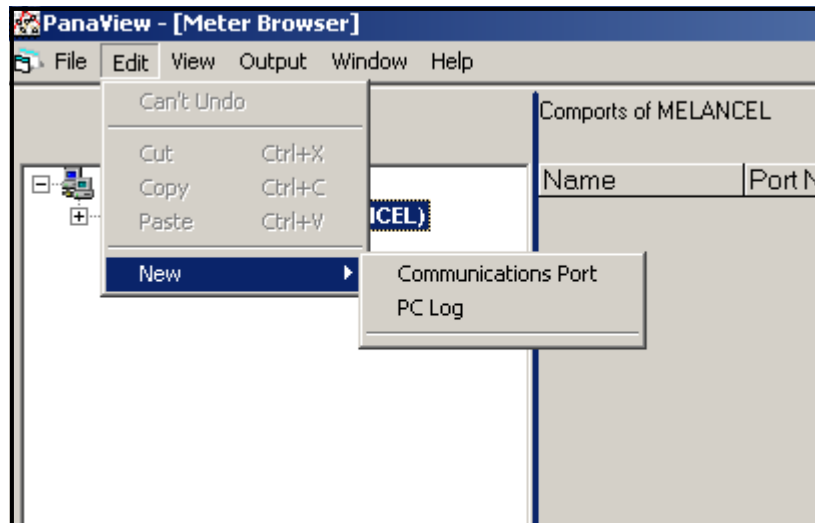

Figure 18: The Edit Menu
3. Click on the “New” menu option to select it, and a submenu opens with two choices on it (see *Figure 18* below).